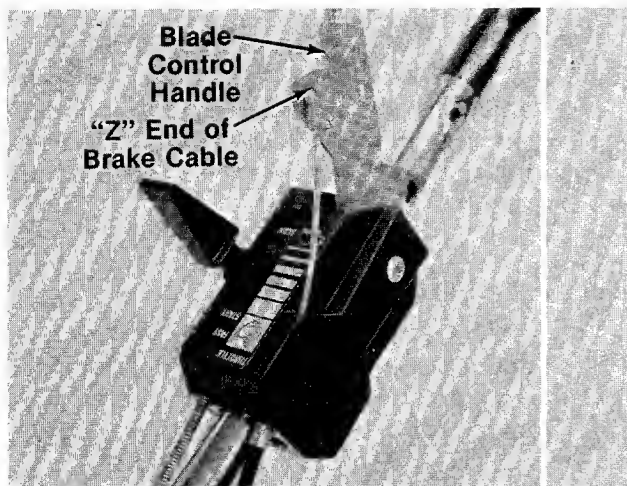

**FIGURE 6.**
3. Place the end of the brake cable into the upper hole on the bottom of the throttle control housing, and through the slot as shown in figure 6. Be careful not to bend or kink the cable.